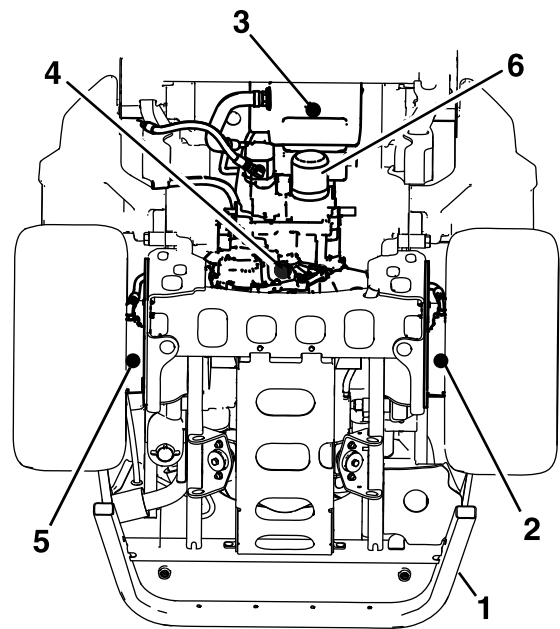

Figure 68
4. Place a large drain pan under the hydraulic reservoir, transmission case, and the left and right wheel motors (Figure 68).
5. Remove the drain plugs from each area and allow the hydraulic fluid to drain (Figure 68).
6. Clean the area around the hydraulic-fluid filter and remove the filter (Figure 68).